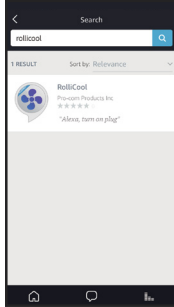

Fig. 4
**Step 1.** Search “RolliCool” in the Amazon Alexa app home screen (fig. 4).